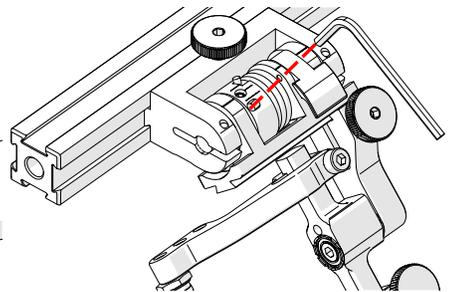

Fig. 160 - Unlatched position
3. Insert the short arm of a 3 mm hex wrench into the 3 mm slot (Fig. 160).